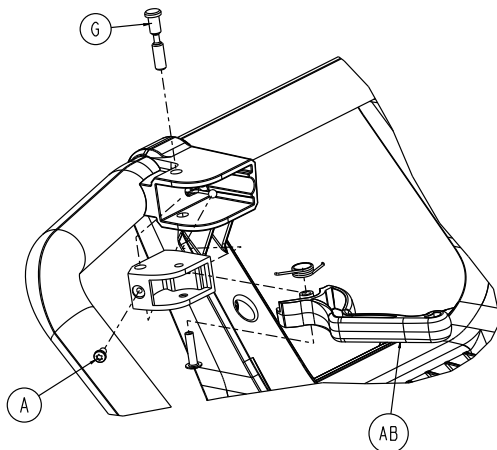

Figure 87 – Remove the manual release pivot pin
7. Using a T20 Torx driver, loosen the manual release pivot pin (G) on the quick release handle (AB) (Figure 87). Remove and save the pin and quick release handle assembly.